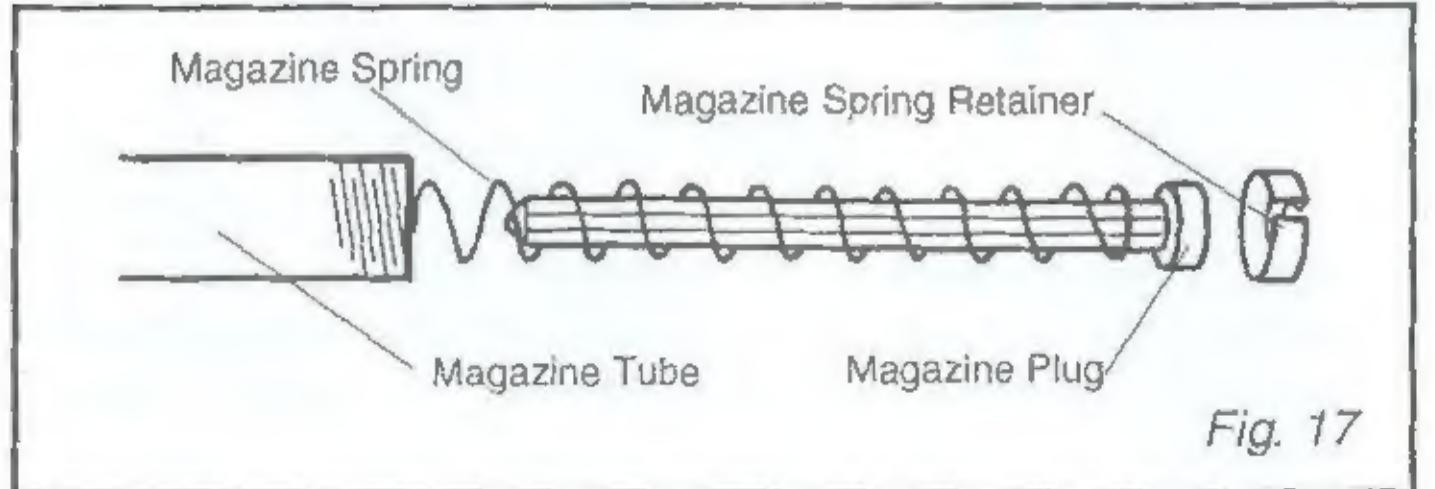

Fig. 17
- Insert or remove the magazine plug into the magazine spring. See Fig. 17.